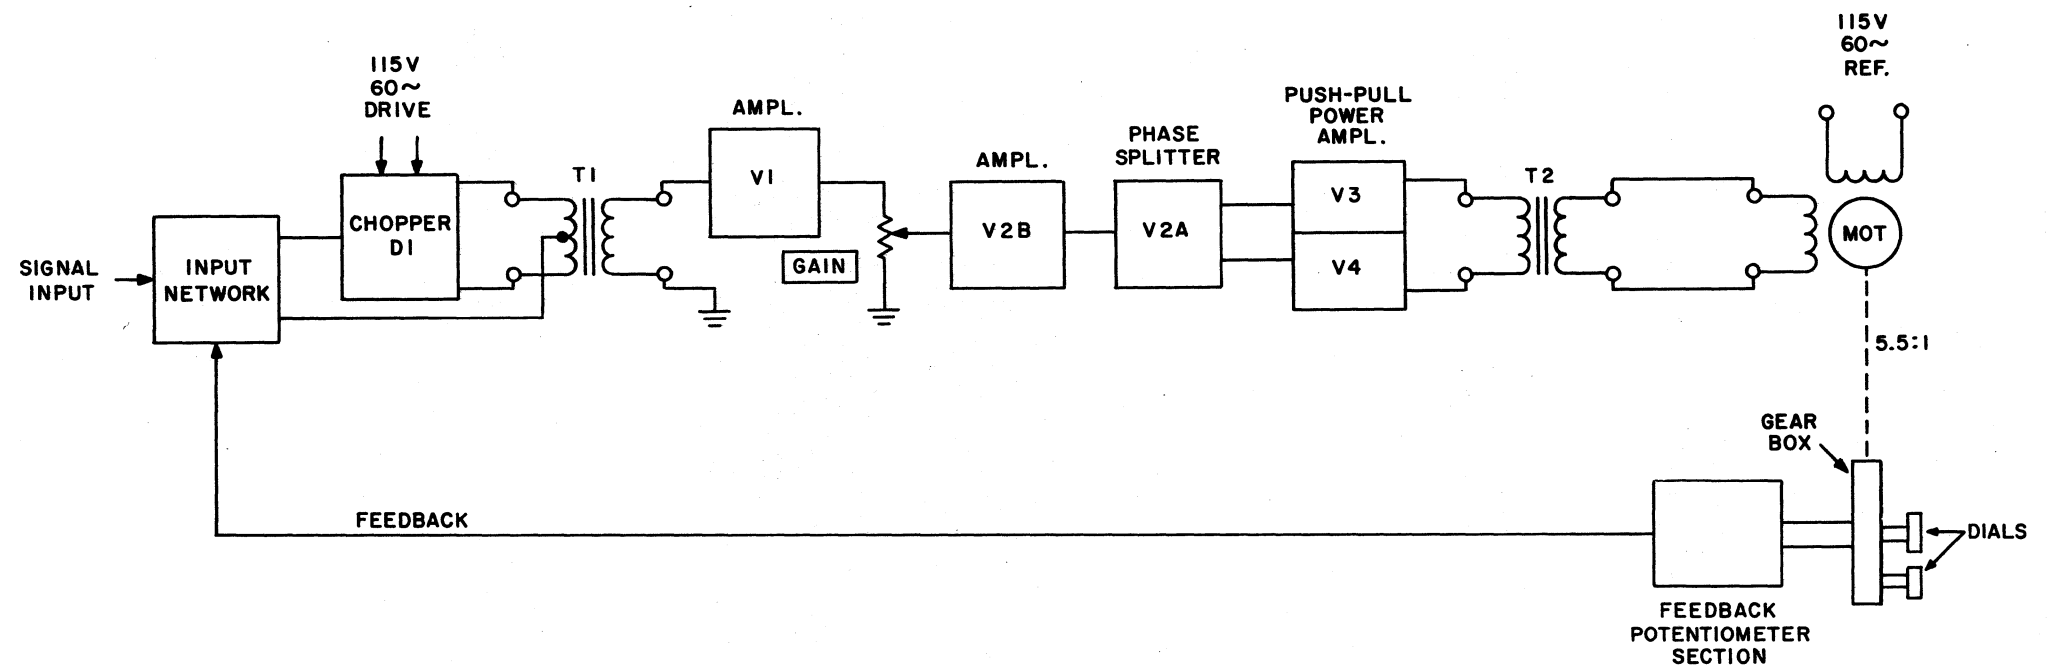
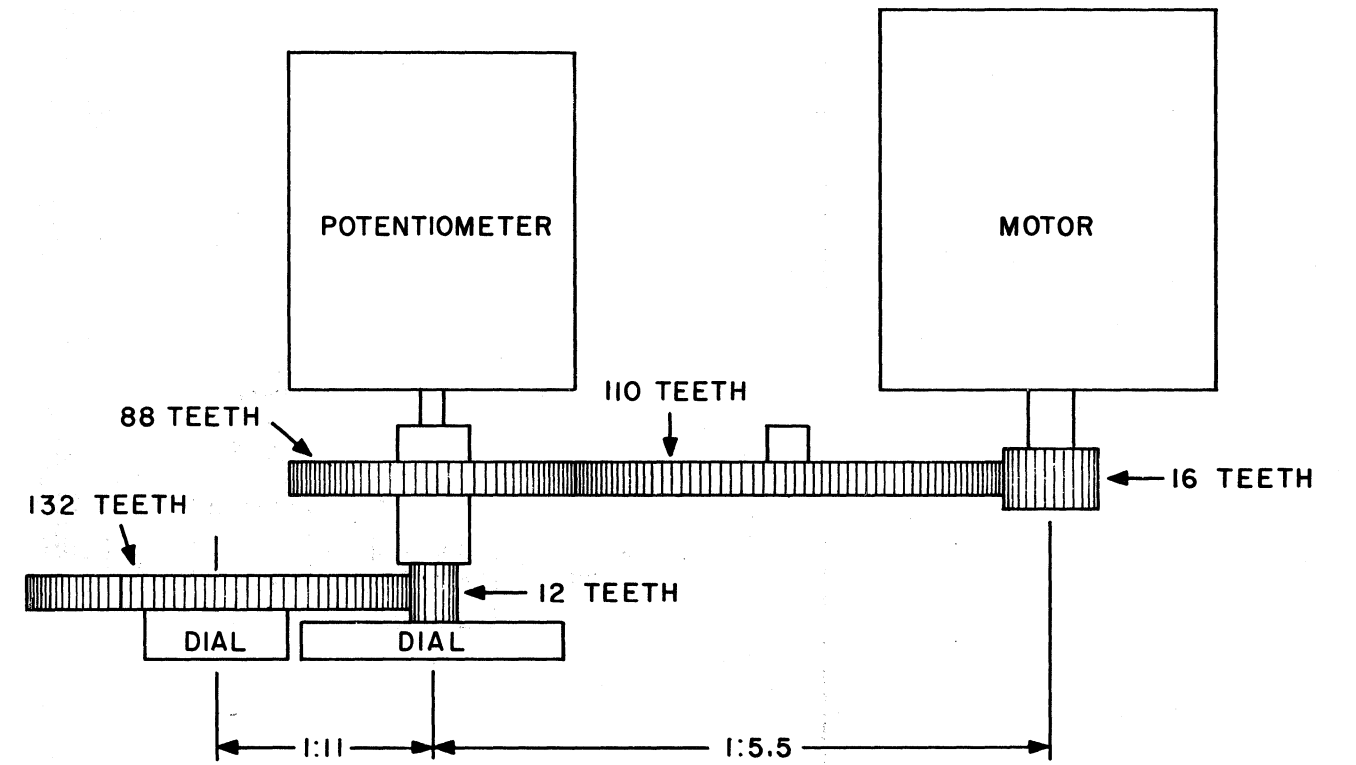

Figure 19.
Figure 20. 7.083 Gear Train Schematic
The multiplier circuitry consists of a servo amplifier (with input network and modulator), servo motor, gear train and a multiplying potentiometer. The servo amplifier provides positioning power to the servo motor from two sources: (1) a common variable signal coupled to the signal input; and (2) the feedback voltage (FB). The signal input represents the magnitude of the common variable by which the other variables are to be multiplied. The feedback voltage is derived from the wiper arm of the feedback cup of the multiplying potentiometer (see Figure 19). Coupling of the servo motor to the multiplying potentiometer is provided by a gear train with a ratio of 5.5:1 (motor to potentiometer) as shown in Figure 20.